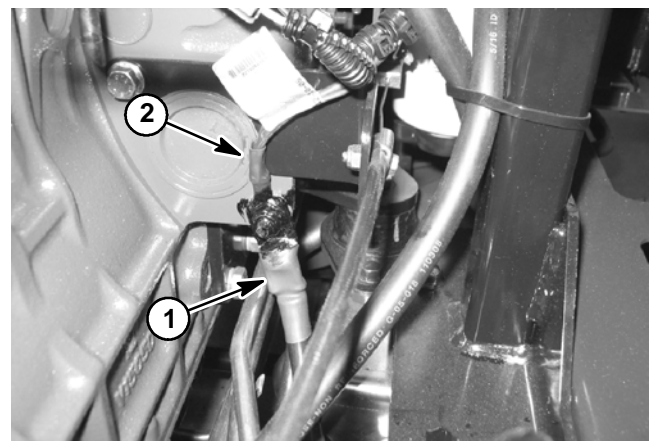

Figure 12
- F. Negative battery cable and wire harness ground from injector pump (Fig. 12).